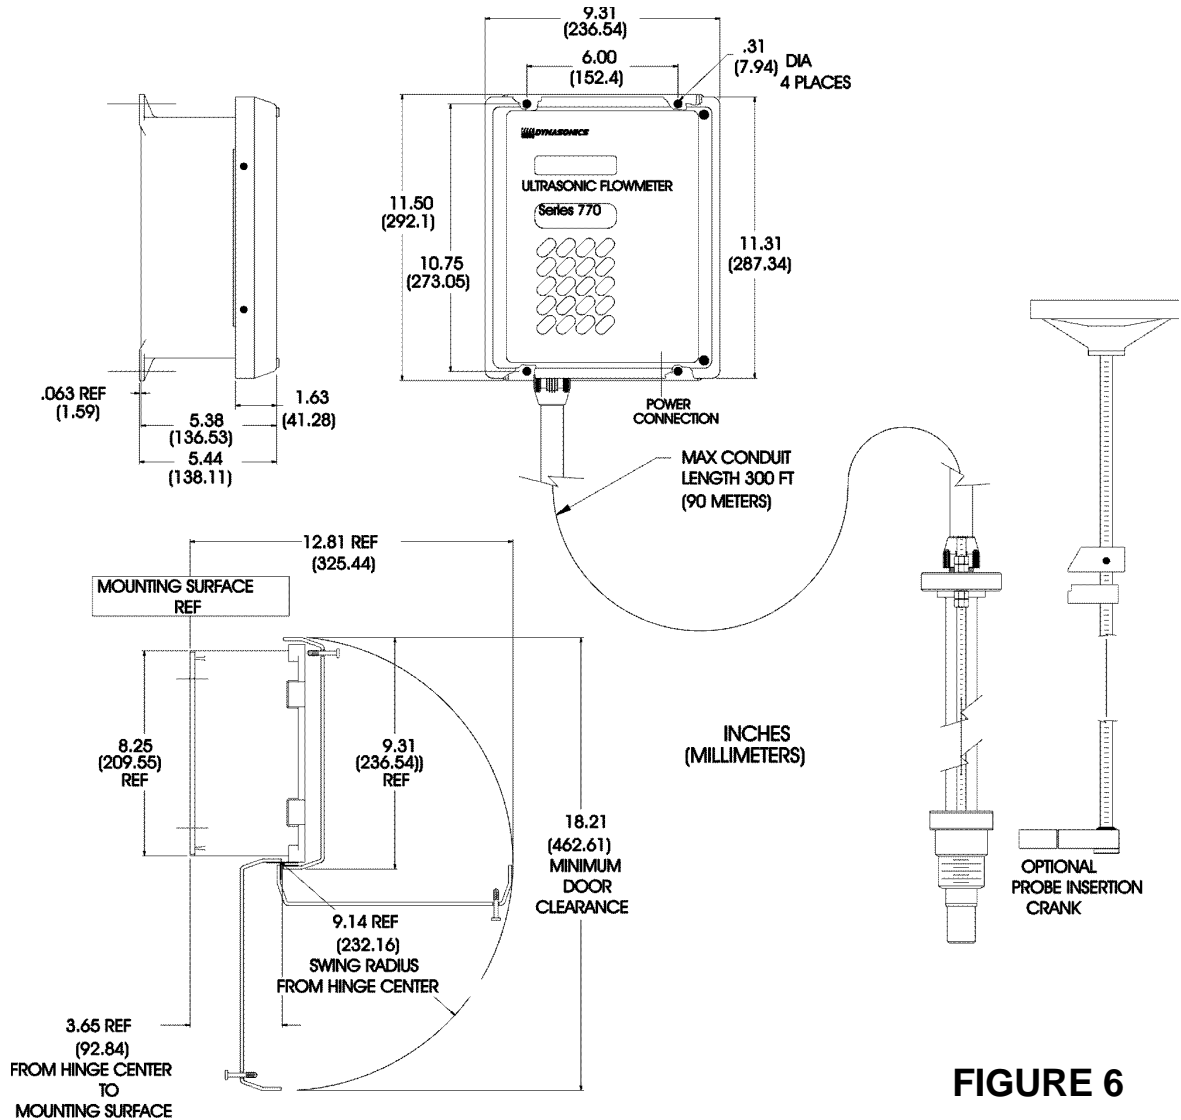

FIGURE 6
2. Mounting: Refer to **Figure 6** for enclosure and mounting dimension details. Ensure that enough room is available to allow for door swing, maintenance and conduit entrances. Secure the enclosure to a flat surface with four appropriate fasteners.